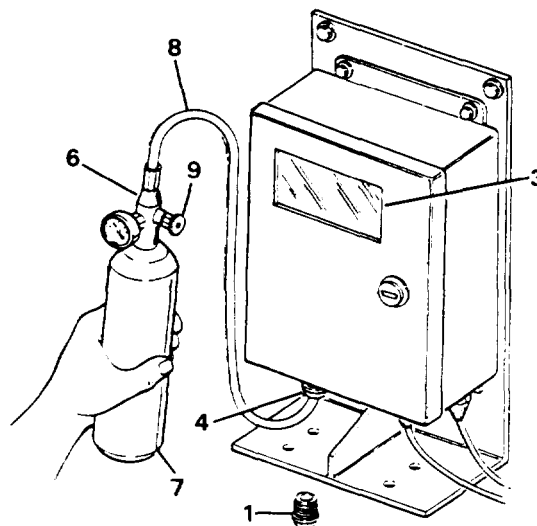

Figure 3-23. Testing Carbon Monoxide Monitor
- a. Install the sensor zero cap (1, Figure 3-23) from the carbon monoxide monitor test kit in the sensor inlet on the CO monitor.
- b. Wait approximately 1-1/2 minutes or until there is a stable reading on the display (3).
- e. Install calibration adapter (4) on sensor inlet.
- f. Install flow control (6) on calibration gas bottle (7). Connect tubing (8) between flow control (6) and calibration adapter (4).
- g. Open flow control (6) by turning valve (9) counterclockwise until it stops. As CO concentration increases on display, check that alarm 1 alarms at 25 and alarm 2 alarms at 50. After 1-1 /2 minutes the value shown on the display should read 60. If it differs by more than  $\pm 3$ , or if alarms do not alarm at the correct point  $\pm 3$ , call unit maintenance.